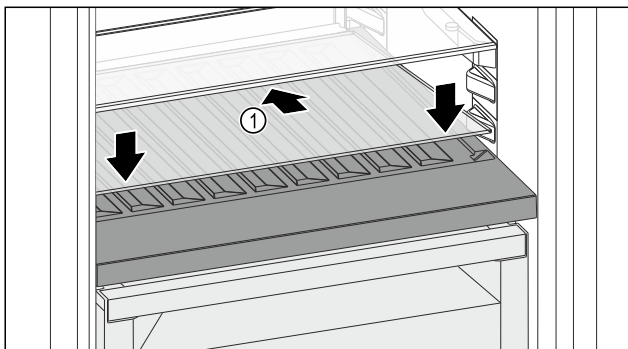

Fig. 158
- ▶ Place the glass shelf Fig. 158 (1) at an angle, sloping it downwards and backwards.
- ▶ Lower the glass shelf Fig. 158 (1) at the front.